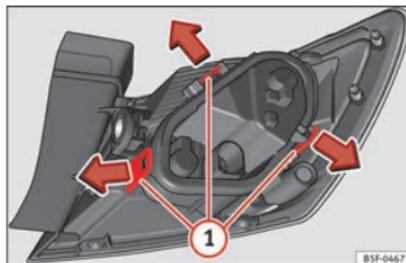

Fig. 112 Retaining tabs on reverse side of tail light.
- Remove the bulb holder » **Fig. 112** unlocking the retaining tabs **①**.